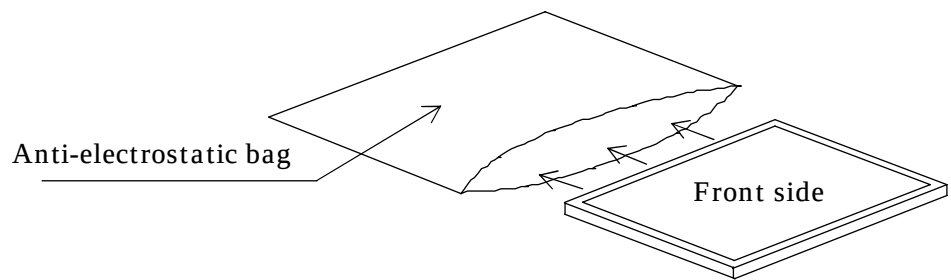

Fig. 17-1(a) Packaging method
(8) Return method of the LCD module requested for repair or analysis of the problem
- When returning the LCD modules, adhere to the following procedures not to damage the LCD panel or the backlight cables. (Fig. 17-1(a)~(b))
(1) Attach protective sheet.
(2) Put the backlight cables in slots.
(3) Put the LCD module into the anti-electrostatic bag